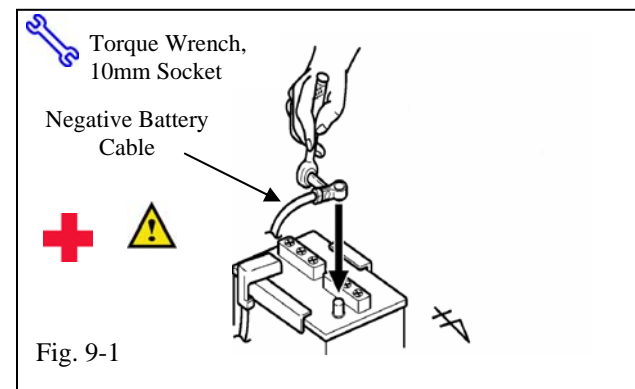

Fig. 9-1
(c) Reconnect the vehicle's negative battery cable. (Fig. 9-1)
(1) Position the negative battery cable at the original factory position. (Fig. 9-1)
(2) Tighten the nut with 4.1 N-m (36 lbf-in) of torque.
(3) Be careful not to touch the positive battery terminal.